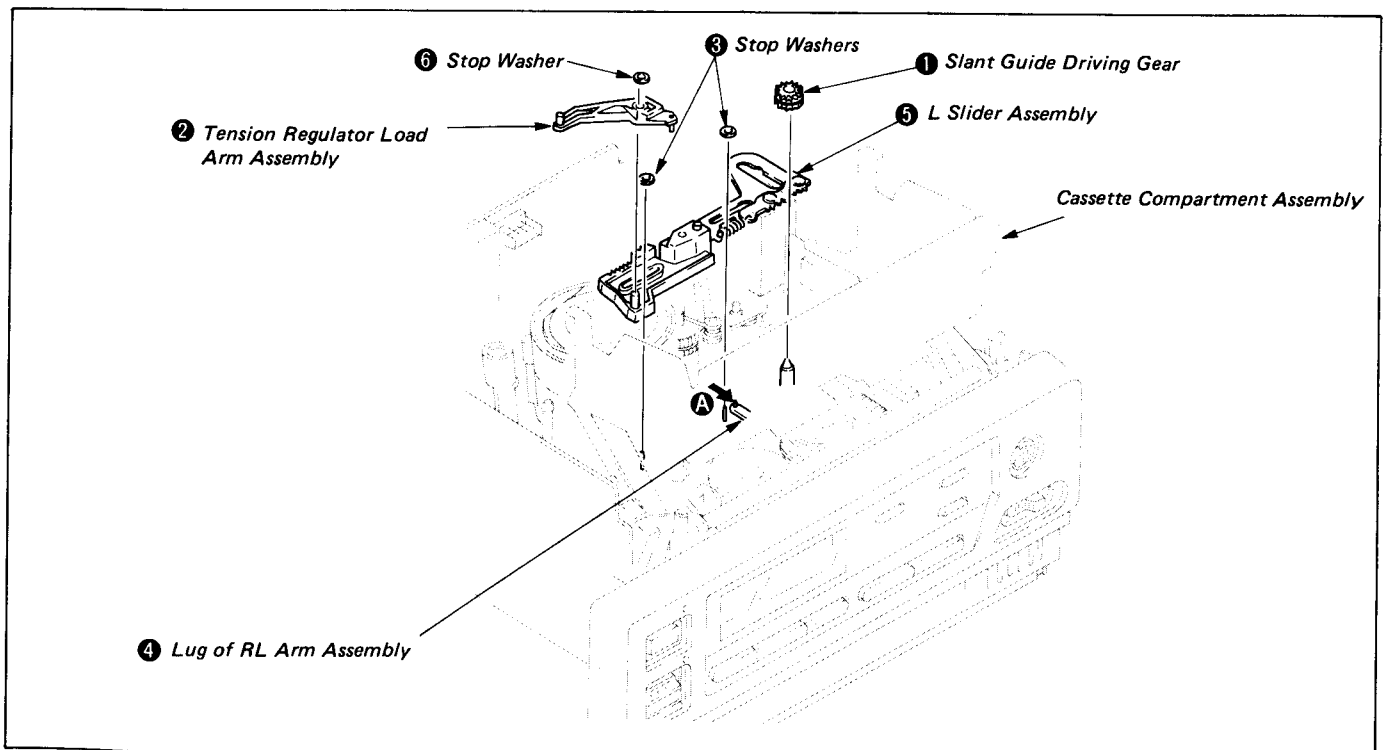
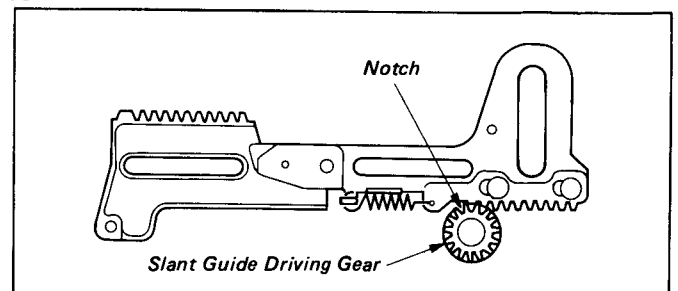

Fig. 1-33
Fig. 1-35
- 2) Remove the No. 2 guide assembly (entrance guide (P) assembly) as instructed in 1-3-10.
- 4) Remove the slant guide drive gear ①.
- 5) Remove the pin of the tension regulator load arm assembly ② from the cam groove of the tension regulator arm assembly. (Refer to 1-3-4 Tension regulator arm assembly.)
- 6) Remove the two stopper washers ③.
- 7) Remove the L slider assembly ⑤ push the RL arm assembly lug ④ toward the arrow A.
- 8) Remove the stopper washer ⑥ and tension regulator load arm assembly ②. (See Fig. 1-33.)
- 2) Remount the tension regulator load arm assembly ② and stop washer ⑥. (See Fig. 1-33.)
- 3) Remount the L slider assembly ⑤ pushing the RL arm assembly lug ④ toward the arrow A.
- 4) Refit the two stop washers ③.
- 5) Reinsert the pin of the tension regulator load arm assembly ② into the groove of the M slider. (Refer to 1-3-15 M Slider.)
- 6) Reinsert the pin of the tension regulator load arm assembly ② in the cam groove of the tension regulator arm assembly referring to 2) of 2. Remounting in 1-3-4 (Refer to 1-3-4 Tension regulator arm assembly.)
- 8) Mesh the notch of the slant guide drive gear with the tooth at the lefthand edge of the L slider assembly by sliding one tooth. (See Fig. 1-35.)